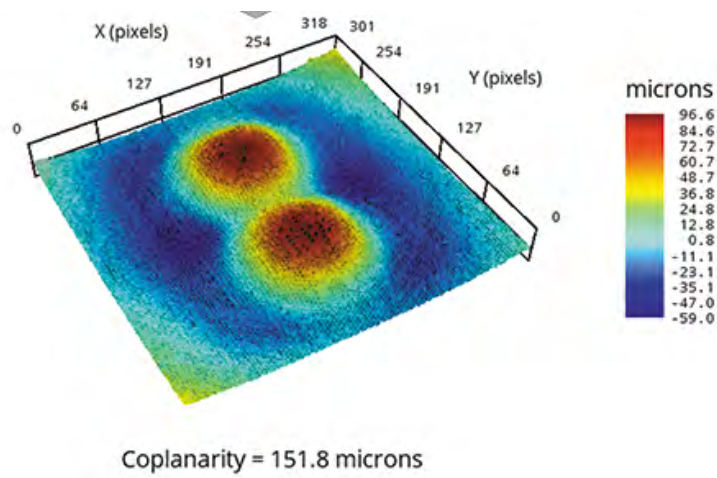
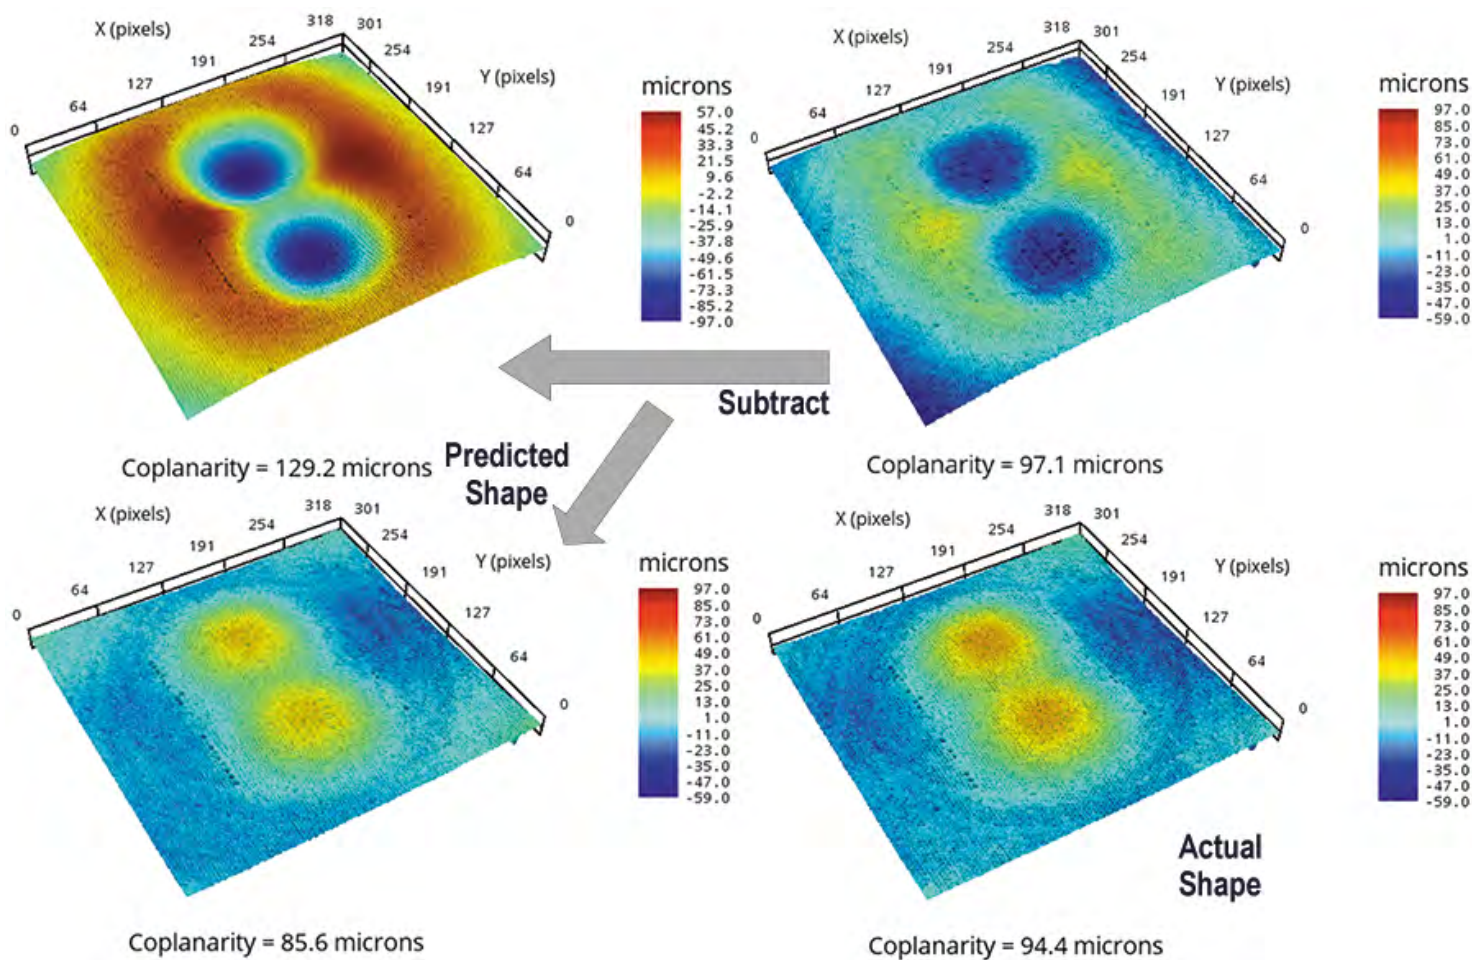

Figure 14. Relative shape change in BGA 4 from room temperature to 220°C.
Figure 16. Predicted larger BGA shape at 220°C based on room temperature shape and average relative shape change.
Relative shape change room temperature to solder liquidus. For each measured surface, the relative shape change between room temperature and 220°C can be found by subtracting the room temperature surface from the 220°C surface as in **FIGURE 14**.
**Prediction of shape at solder liquidus based on average shape change.** The final step is to use these averaged surfaces, applying the shape change to the room temperature surface to try and predict what the shape will be at the critical solder liquidus point in the reflow profile. The example from Figure 14 can be used again in **FIGURE 16**. The average relative shape change is inverted and then subtracted from room temperature data to predict the solder liquidus shape.